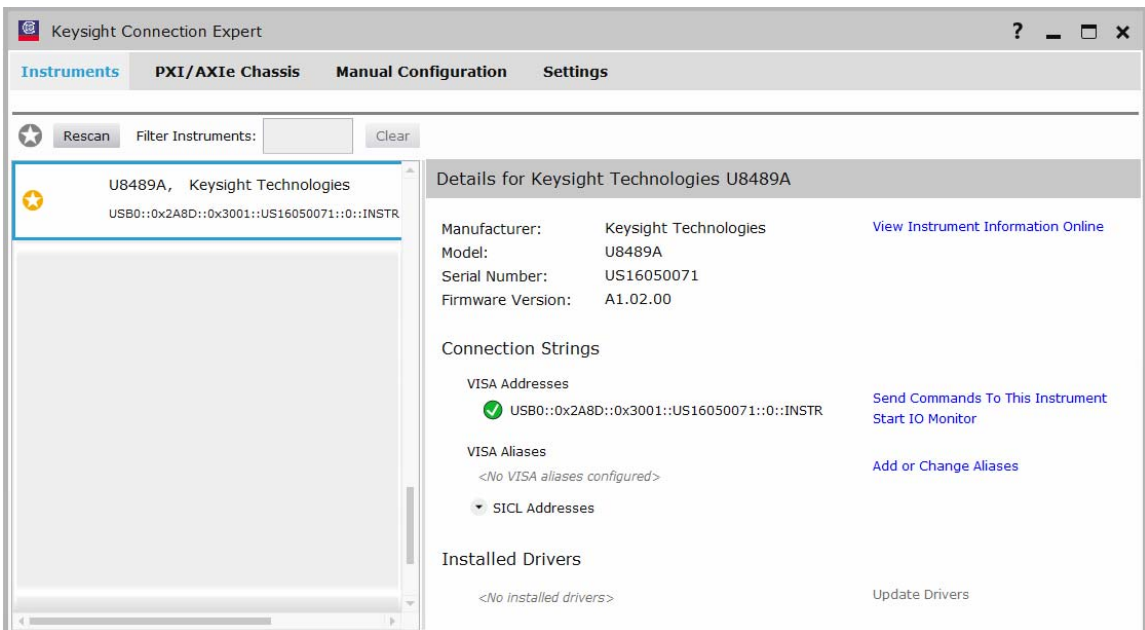

Figure 1-3 Auto-locate a USB instrument in Keysight Connection Expert
- 2 Launch the Keysight Connection Expert by selecting the IO icon (). Auto-locate the sensor as shown in Figure 1-3. Click **Rescan** to start searching.